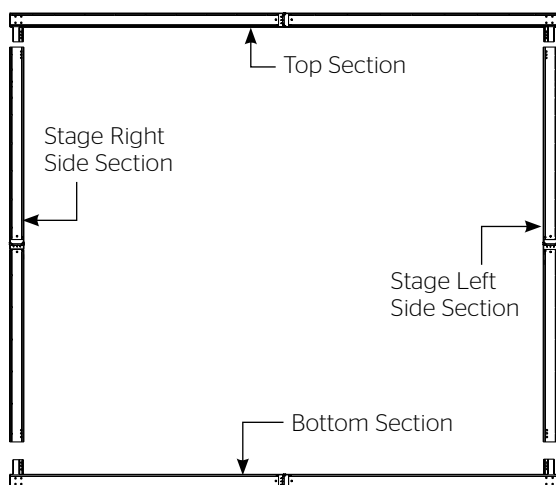

Figure 1
1. Unfold the 4 sections of Heavy Duty Fast-Fold® Deluxe frame, lock all latches and lay face up on the floor. See Figure 1.